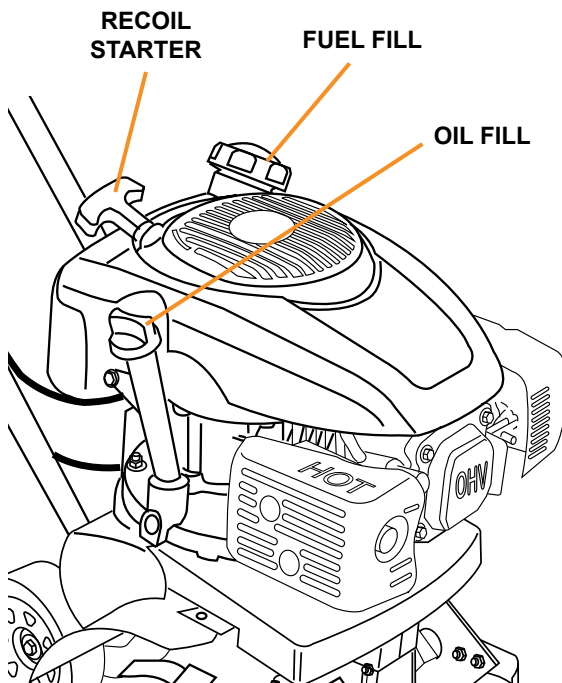

Figure 10
1. Add oil according to engine manual. Do not overfill. Use SAE30 engine oil. **Do not mix oil with gasoline.** Oil level must be full. Check the oil level by removing oil fill plug (see Figure 10). Oil level should be up to the bottom of the fill plug opening.